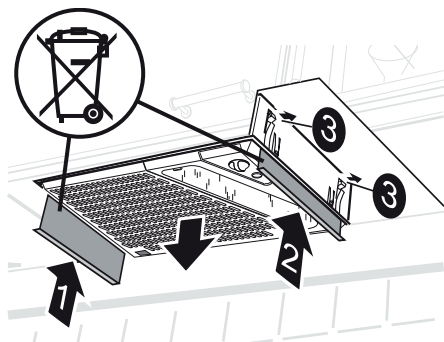

Fig. 14
Press up the disassembling (1 and 2) between the cooker hood and the suspension frame to disengage the springs (3). Pull down the cooker hood from the suspension frame, Fig. 14.